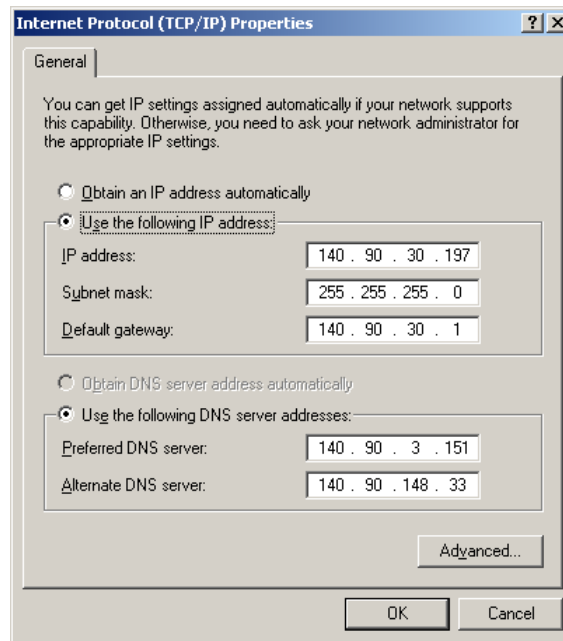

Figure A-6: Internet Protocol (TCP/IP) Properties Window (Example Only)
7. Select **Internet Protocol (TCP/IP)** from the list, and then click **Properties**. The *Internet Protocol (TCP/IP) Properties* window will appear (Figure A-6).